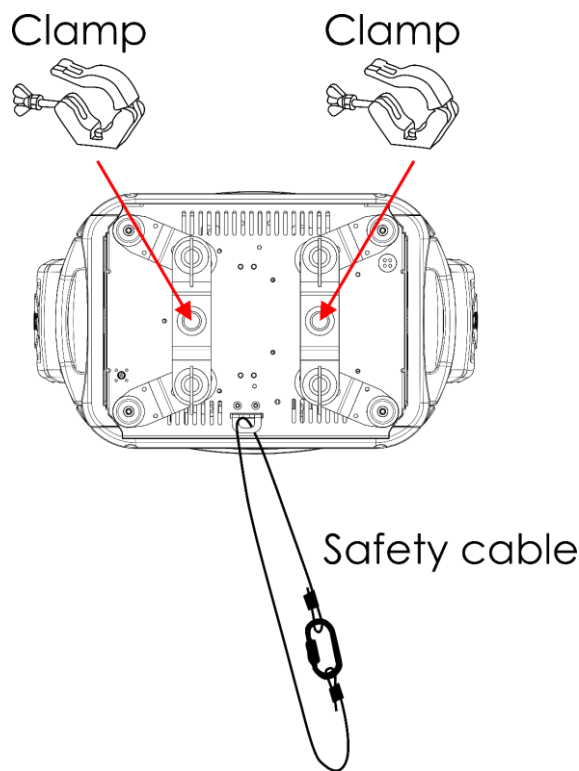

Fig. 07
- 02) Install the clamps, as shown in Fig. 07. Make sure that you use clamps suitable for attaching the device to a truss.
- 04) Secure the device with a secondary suspension, for example a safety cable. Make sure that the secondary suspension can hold 10 times the weight of the device. If possible, the secondary suspension should be attached to a supporting structure independent of the primary suspension. Put the safety cable through the **safety eye (14)**, as shown in Fig. 07.